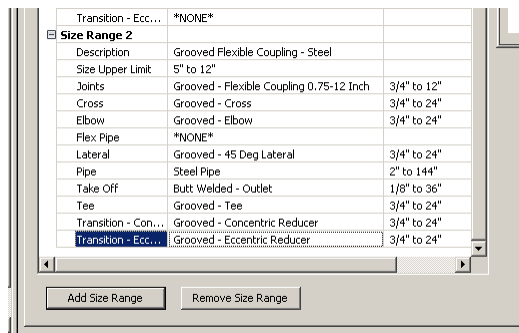

Figure 6.19
15. Assign the following parts from the *Steel Pipe (US Imperial)* Catalog (see Figure 6.19):